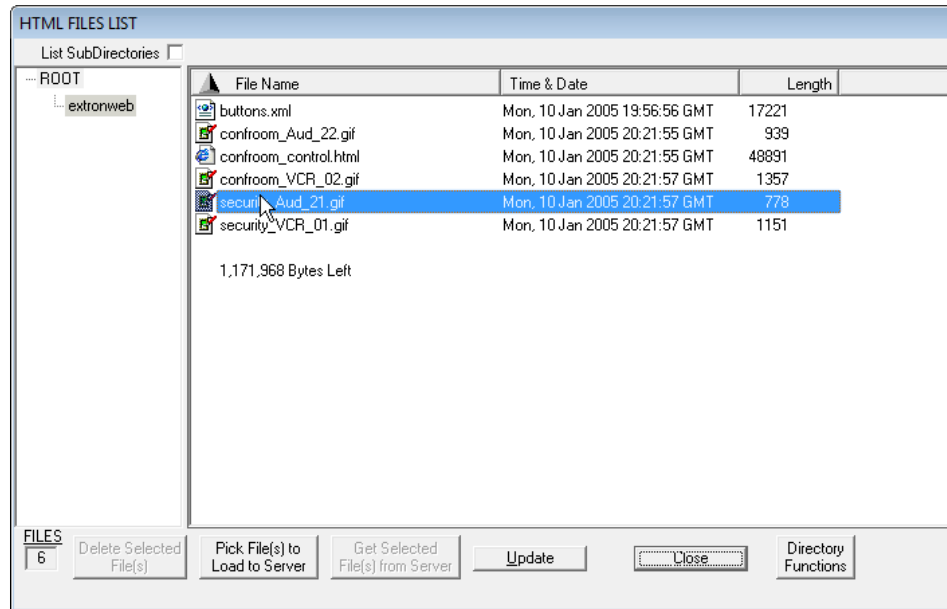

Figure 43. HTML Files List Window
You can create customized HTML pages for the SMX to display. The HTML Files List window (see figure 43) provides a way to view the contents of the SMX file system and to upload custom HTML pages to the SMX.
- The files listed in the figure 43 are shown for example only and may not be present on your switcher.